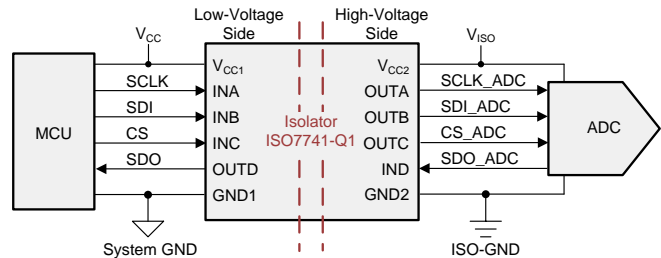

Figure 2. SPI Signals Isolated in Battery Management Systems
Most commonly SPI interface is used for communication between the ADC and the MCU. The frequently used configuration for the isolation is 3 channels in one direction (SD, SCLK, CS) and one in the opposite direction (SDO). This leads to a 3/1 digital isolator as shown in Figure 2. The ISO7741-Q1 is a 4 channel (3/1) device that is available in the reinforced rating (5 kVrms) in the wide SOIC-16 (DW) package or in the basic rating (2.5 kVrms) in the QSOP-16 (DBQ) package.